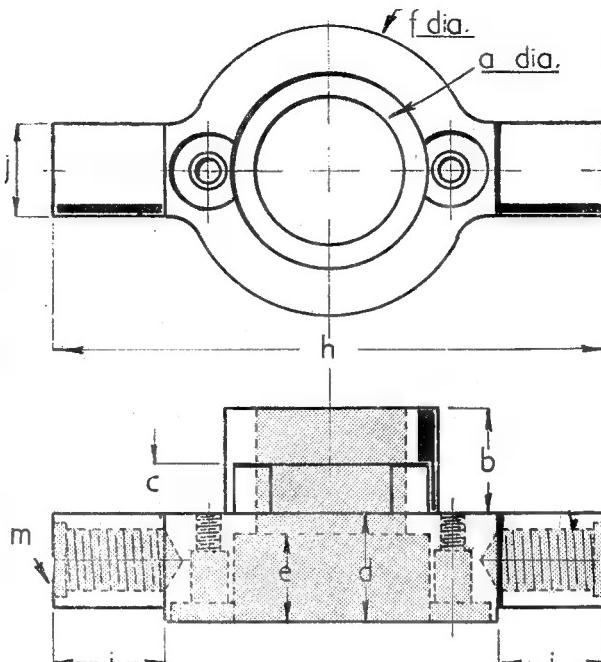
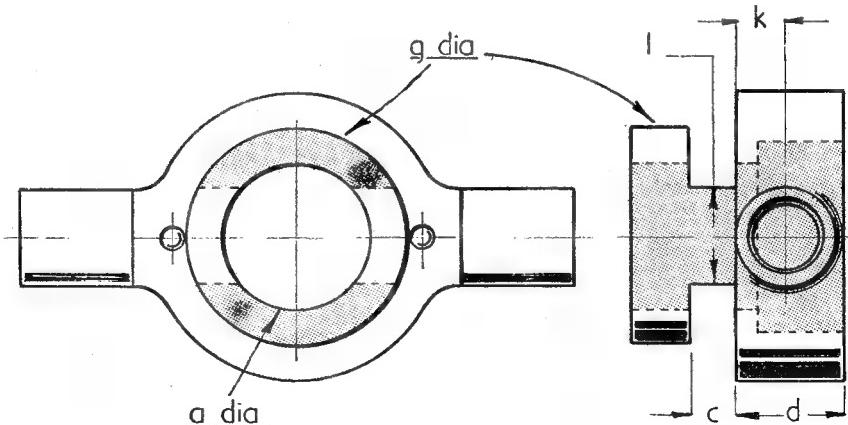

Fig. 8
Fig. 9
Fig. 8. Eclipse No. 3 chuck-type pin vice to approximate. ("A") Hardened jaws permanent shell insert. ("B") Knurled chuck cap. ("C") Knurled main body. ("D") Knurled hollow shaft
size chosen has a nominal chuck capacity of 0.05 to 0.125 in., i.e., handling drills from Nos. 54 to 30, this including the standard shank dental drills or "burrs," of which more anon. Fig. 8 and Fig. 9 (top) shows the No. 3 model chosen, the chuck jaws (A) being a separate split shell
Fig. 9. Top—Eclipse No. 3 chuck-type pin vice, gripping rose head-type dental drill. Centre—Spindle fully machined with extension driving spigot pinned in position. Lower centre—Left, nose-piece casing; Right, extension casing. (Main bearing bush pressed in front of nose-piece) Bottom—Left to right. Chuck cover hood, case-hardened washers and brass cage of thrust-race, rear bearing, and terminal securing collar
and inserting a  $3/32$ -in. drill : it should run truly and be tightly gripped (Fig. 9, middle).
The terminal securing collar is mild-steel turned  $\frac{7}{16}$  in. diameter,  $\frac{1}{4}$  in. long, bored No. 2 drill and drilled transversely  $\frac{1}{8}$  in. Whit. tapping drill, which is then tapped for two small  $\frac{1}{4}$ -in. Whit. securing set-screws (Fig. 9, bottom). The nose-piece is now ready for assembly, the front and rear bearings having been checked independently for running fit on the main chuck spindle. The chuck spindle, with nose cap fully tightened, is now inserted, a clearance of at least  $\frac{1}{16}$  in. being allowed between recessed shoulder of chuck cap and face of the bushed nose-piece body, this being secured by a cardboard washer which can be later cut away. The rear end of the body is then held upwards and the thrust washer with No. 2 drill size hole pushed down to seat snugly on the shoulder of the shaft, the ball cage loaded with grease, with balls imbedded, is then pushed down followed by the second thrust washer No. 1 size drill centre hole. The rear bearing is then pushed gently down until home against the thrust washer, the main spindle not having been disturbed : opposed pilot holes are then drilled through the casing over the inserted rear bearing bush to register on the bush within, and this is then gently withdrawn, drilled 6 B.A. tapping drill and threaded, the casing holes are enlarged to 6 B.A. clearance and countersunk ; the bush is reinserted and fixed with countersunk-head 6-B.A. set-screws, short enough to clear the bore. The terminal collar is now pushed on and the cardboard spacer under the chuck cap cut away, any slack in the thrust bearing is taken up, and the terminal collar secured by the set-screws.
The finished dimensions of this part are indicated by letters in the working drawings in Figs. 8 and 9; these letters refer to the figures given in the accompanying Table, Fig. 10. It will be seen that this Table, as well as others that follow, has the dimensions set out in three horizontal lines: A, B, and C; these refer to die-holders for use with  $\frac{1}{2}$  in., 1 in., and  $1\frac{1}{2}$  in. dies respectively, and this scheme will be adhered to throughout. The